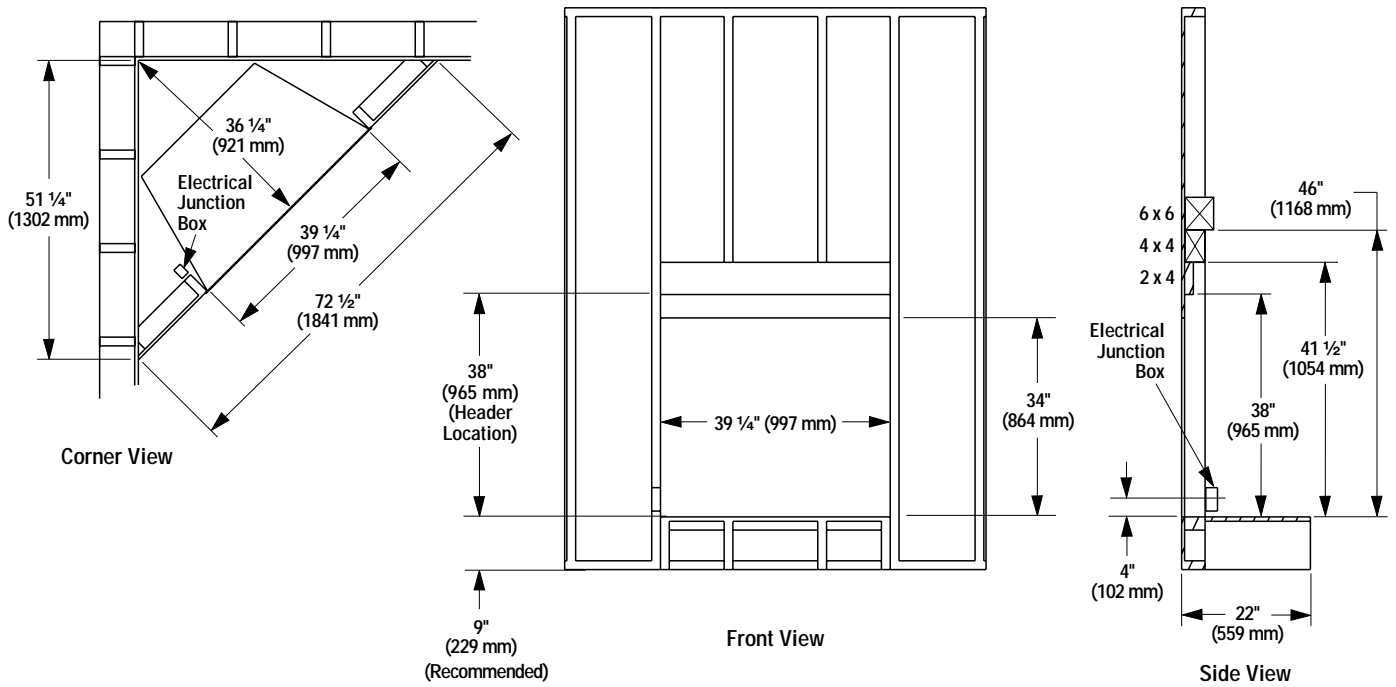
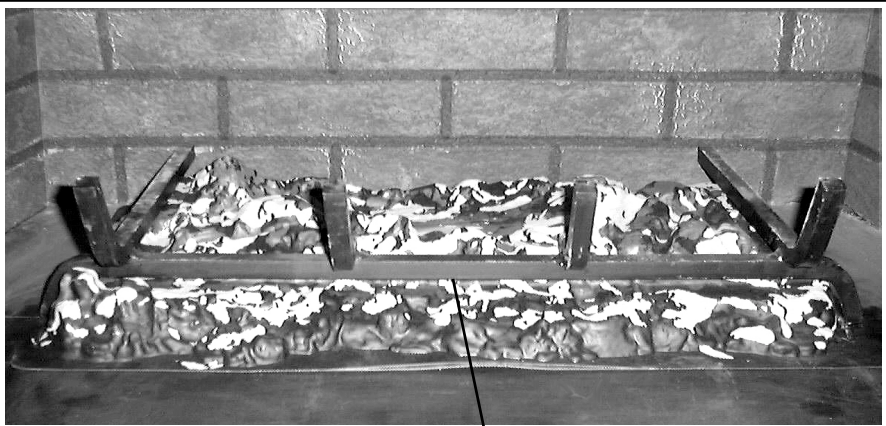

Figure 3
Figure 12
Your new fireplace may be installed into existing framing. It may also be built into a wall, see *Figure 3*, or set in a freestanding mantle available from your dealer (see *Figure 12*).
2. Place the grate onto the ember bed as shown in *Figure 12*. Use the back brick pattern as a guide to center the grate.